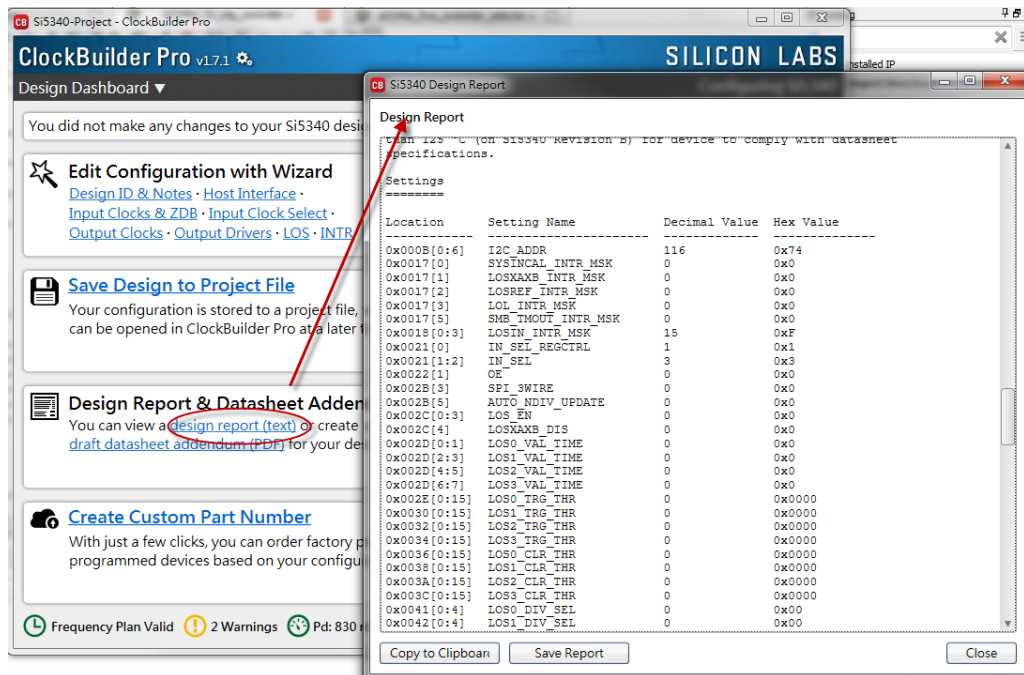

Figure 4-5 Open Design Report on ClockBuilder Pro Wizard
3. After the setting is completed, ClockBuilder Pro Wizard generates a Design Report(text), which contains users setting frequency corresponding register value (See **Figure 4-5**).